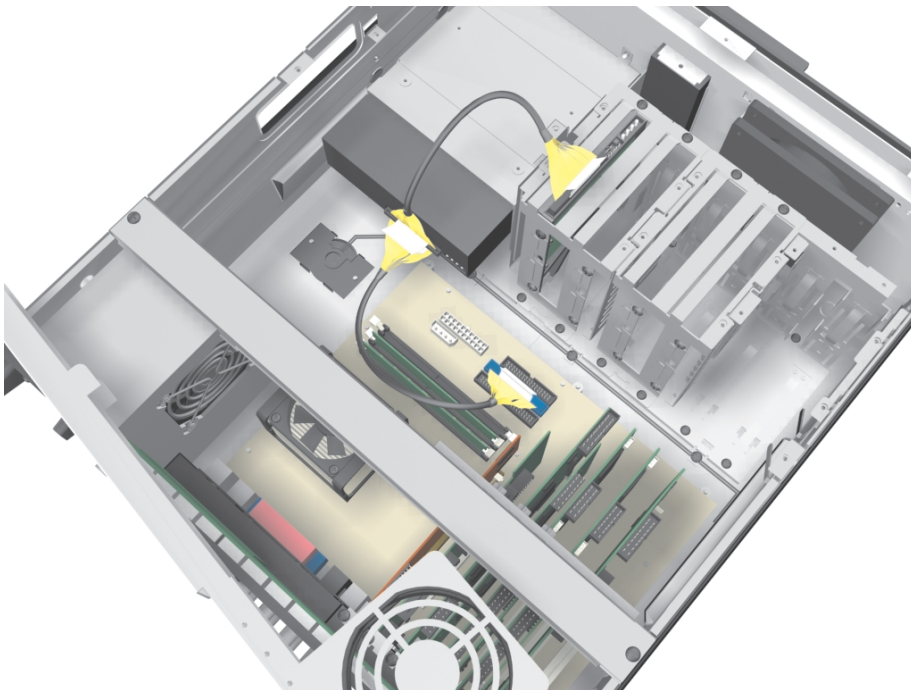

Figure 16. Installing the IDE Data Cable
1. Connect the IDE cable to the newly installed system drive. Refer to Figure 16.